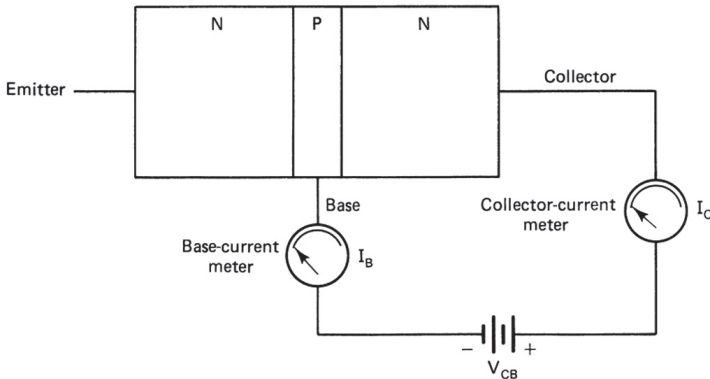

Figure 6.7 Base–collector biasing.
Figure 6.7 shows an external voltage source connected across the base–collector junction of an NPN transistor. The **base–collector voltage**, or V_{CB} , is used to reverse bias the base–collector junction. In this case, there is no indication of **base current** or **collector current** (I_C). In an actual reverse-biased junction, there could be a very minute amount of current, which is supported primarily by minority current carriers. As a general rule, this is called **leakage current**. In a silicon transistor, leakage current is usually considered to be negligible. In an actual circuit, V_{CB} is not normally applied to a transistor without the V_{BE} voltage source.
17. When the base–collector junction of a bipolar transistor is biased as in **Figure 6.7**, the resulting current flow is (zero, medium, maximum) _____.